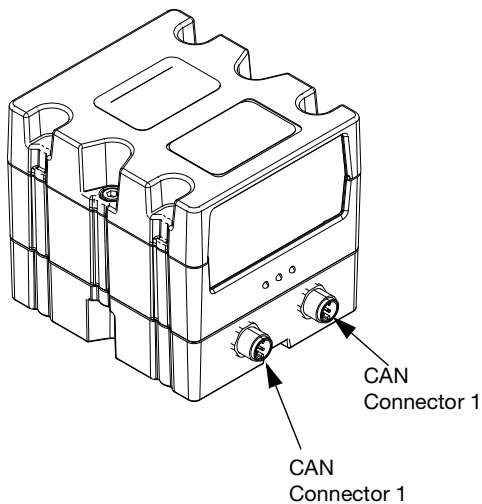

FIG. 51
3. Mount CGM (A) on base (B) with two screws (C).
4. Install access cover (D).
5. Connect CAN cable from either CAN connection on the CGM to the CAN connection found on the CGM to the CAN connection found on the bottom of the ADM. See FIG. 51.